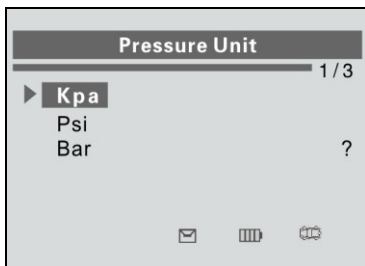

Figure 3.7
- 2) From **Pressure Unit** screen, use the **UP/DOWN SCROLL** button to select the desired unit: Kpa, Psi or Bar. (Figure 3.7)